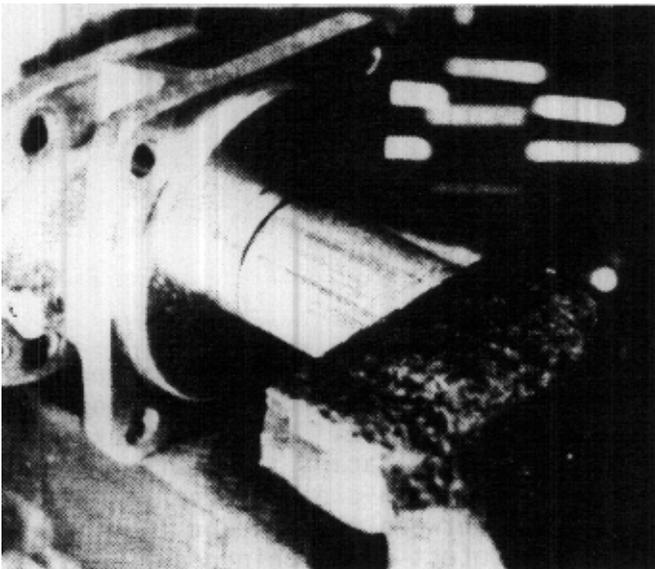

FIGURE 111
7. Position the new seal over the bore with the rubber lip entering first. Center a press ring (or a socket wrench of appropriate size) against the metal back of the seal and close the vise against it. Carefully tighten the vise and press the seal into bore until it seats against the shoulder in the bore. (Fig. 111)